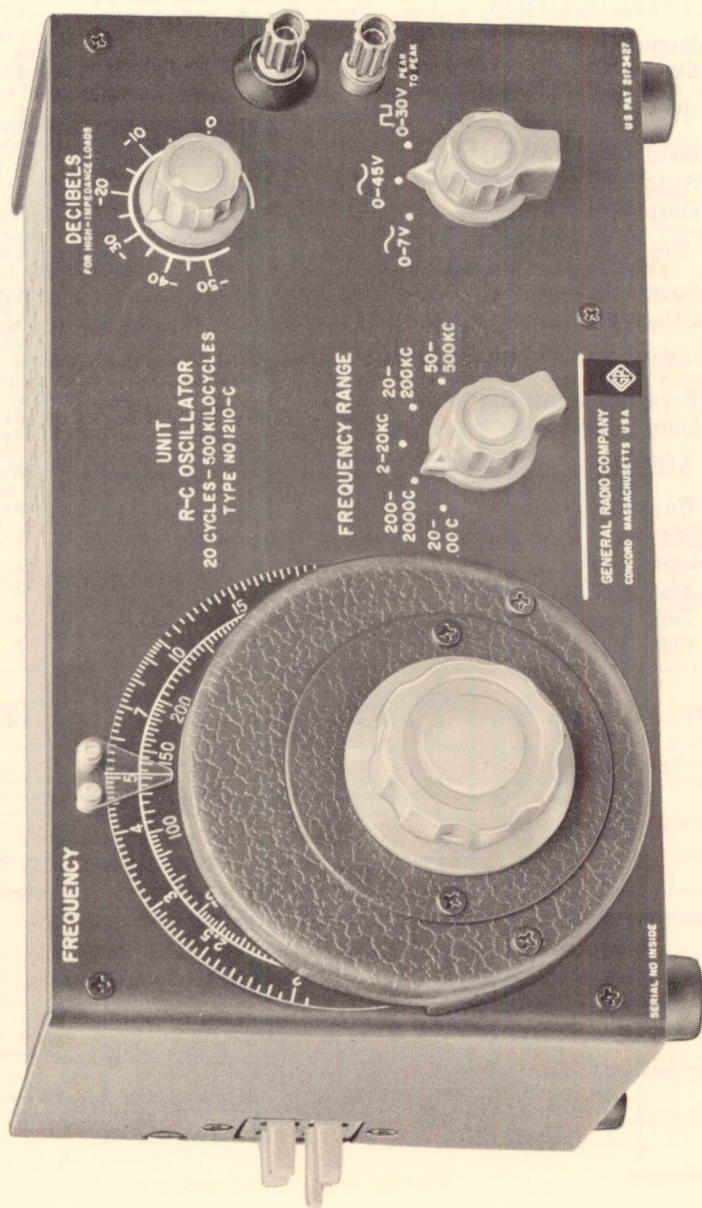

Figure 1. Type 1210-C Unit Oscillator.
1.1 PURPOSE. The Type 1210-C Unit R-C Oscillator (Figure 1) is a capacitance-tuned oscillator that combines the standard features of this type of instrument with square-wave output and "sweepability." With the square-wave output, both low- and high-frequency square-wave tests of transient behavior are possible. Since the instrument can be swept mechanically (refer to paragraph 3.2.1), frequency characteristics can be recorded either on level recorders or on cathode-ray oscilloscopes.